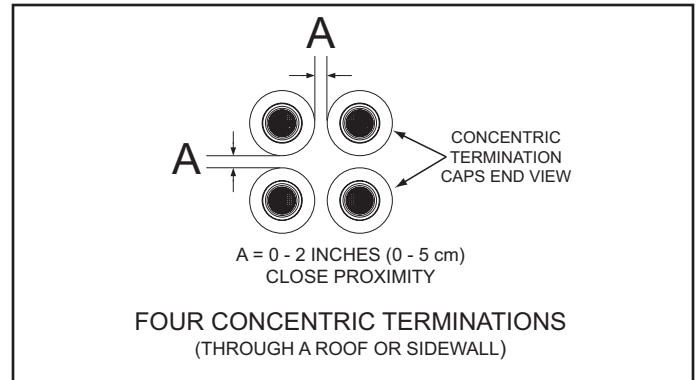
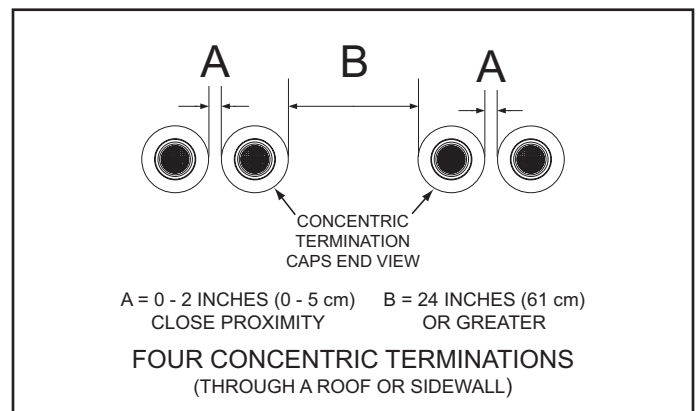
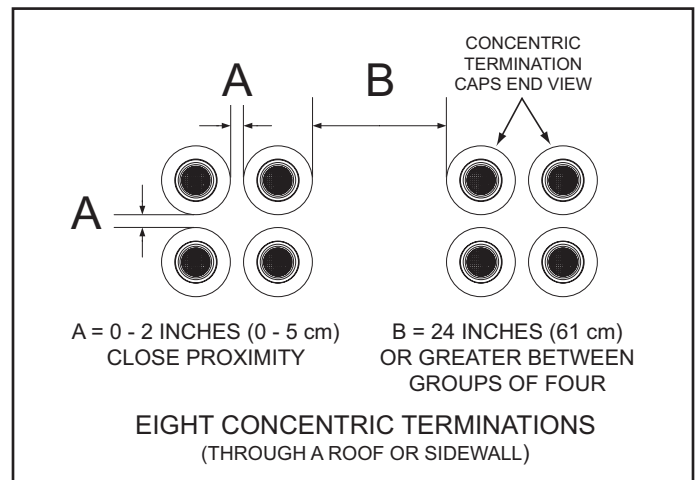
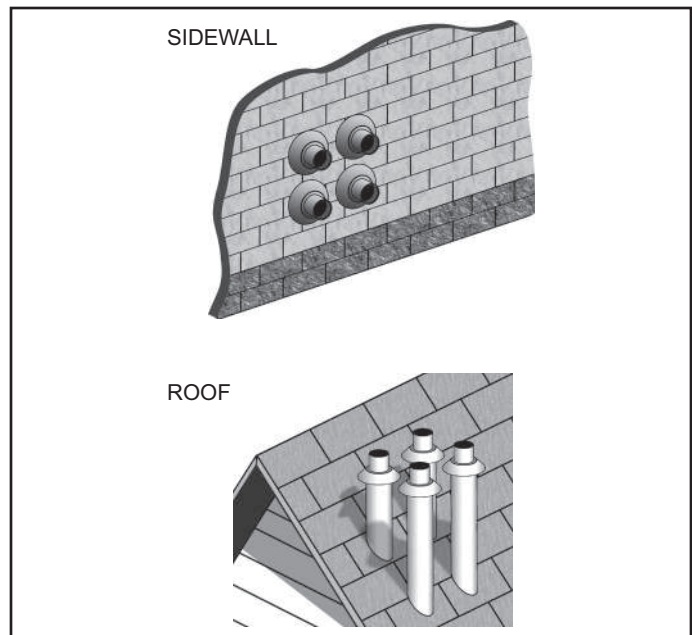

Figure 34
Figure 35
Figure 36
Figure 38
1. When installing four concentric terminations through a roof or through a sidewall in close proximity they may be arranged into stacked rows of two as shown in Figure 34 or lateral rows of two as shown in Figure 35.
2. Four is the maximum number of concentric terminations that may be installed in a group where all terminations are in close proximity as shown in Figure 34.
1. When installing multiple groups of concentric terminations through a roof or through a sidewall in close proximity they can be installed into stacked groups of four as shown in Figure 36. Lateral groups of four as shown in Figure 35 may be a more convenient installation arrangement for multiple groups depending on available space.
Four concentric terminations may be installed in close proximity as shown in Figure 38. See Figure 34 and Figure 35 on page 29 for detailed information on clearances and additional arrangement options.
Eight concentric terminations may be installed in two stacked groups of four, in close proximity, as shown in Figure 39. See Figure 36 on page 29 for detailed information on clearances.
Lateral groups of four as shown in Figure 35 on page 29 may be a more convenient installation arrangement for multiple groups depending on available space.